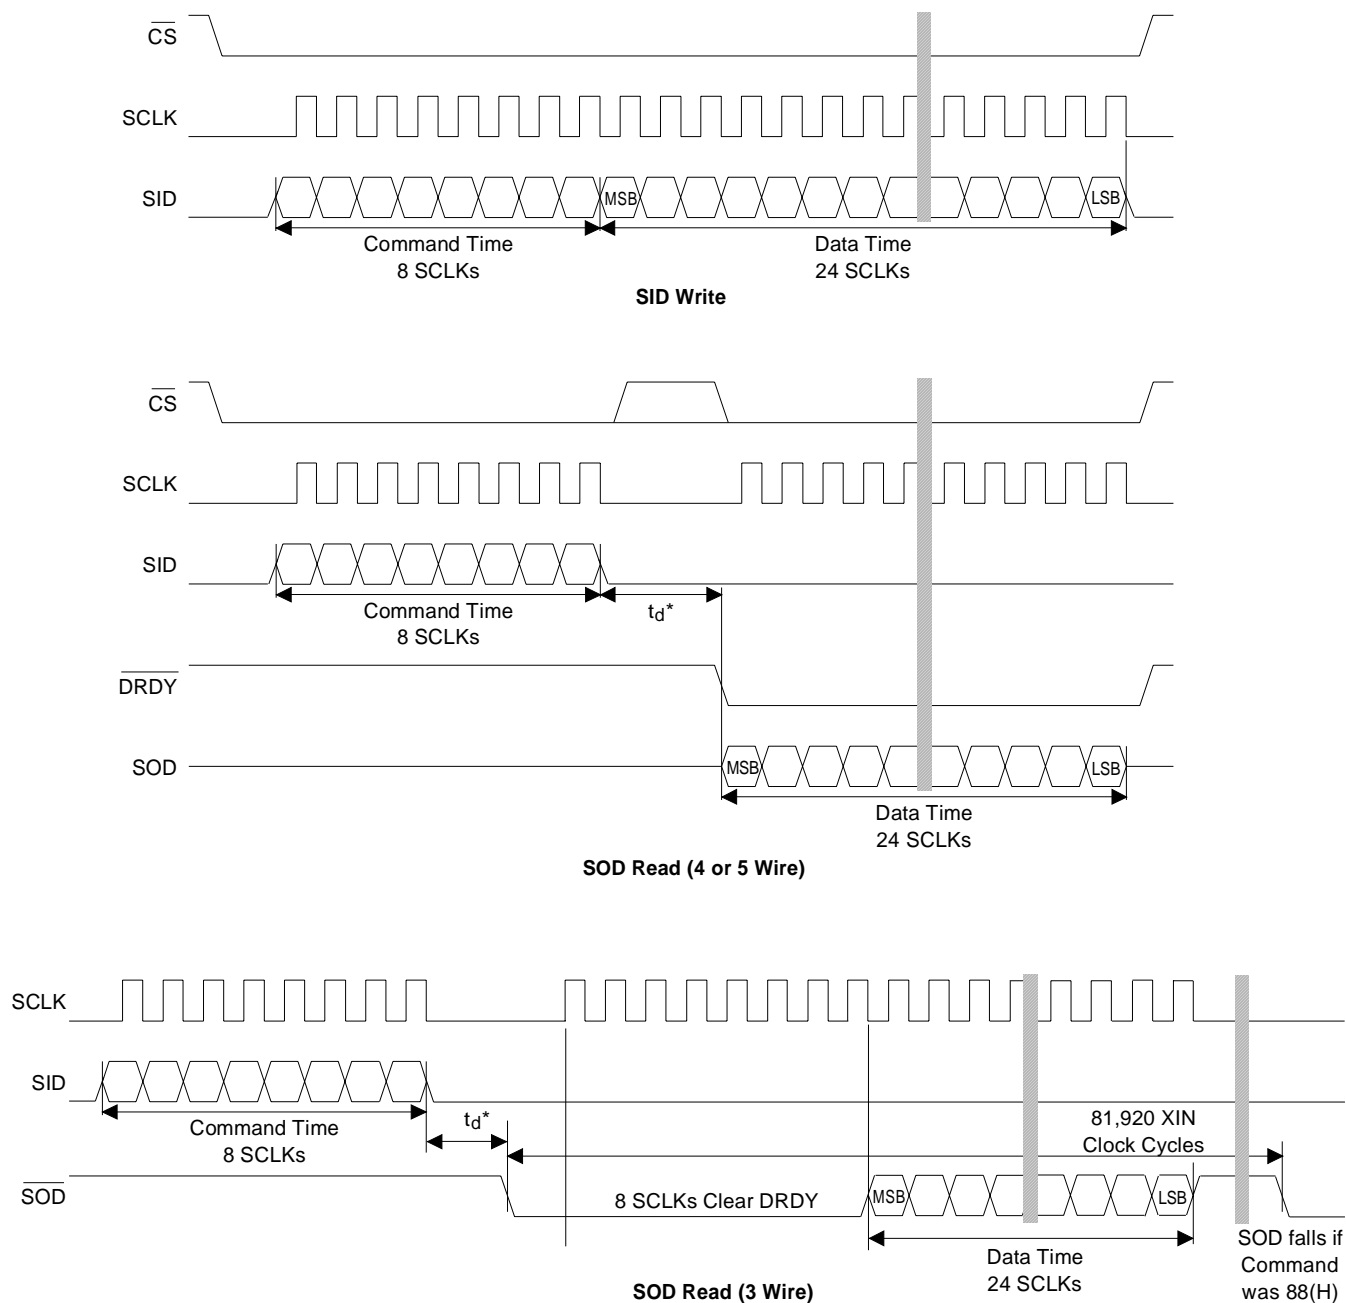

Figure 4. Command and Data Word Timing
Reading a register in the converter requires a command word to be written to the SID pin. For example, to read the conversion data register, the following command sequence should be performed. First, the command word 88(H) would be issued to the port. In the 5 wire interface mode, this would involve activating \overline{CS} low, followed by 8 SCLKs (note that SCLK must always start low and transition from low to high to latch the transmit data, and then back low again) to input the 8-bit command word. \overline{CS} must be low for the serial port to recognize SCLKs during a write or a read, but it is actually the first rising SCLK during command time that gives the user control over the port. After writing the command word, the user must pause and wait until the CS5520 presents the selected register data to the serial port. The \overline{DRDY} signal will fall when the data is available. When reading the conversion data register, it may take up to 112,000 XIN clock cycles for \overline{DRDY} to fall after the 88(H) command word is recognized. See Figure 4 for an illustration of command and data word timing.